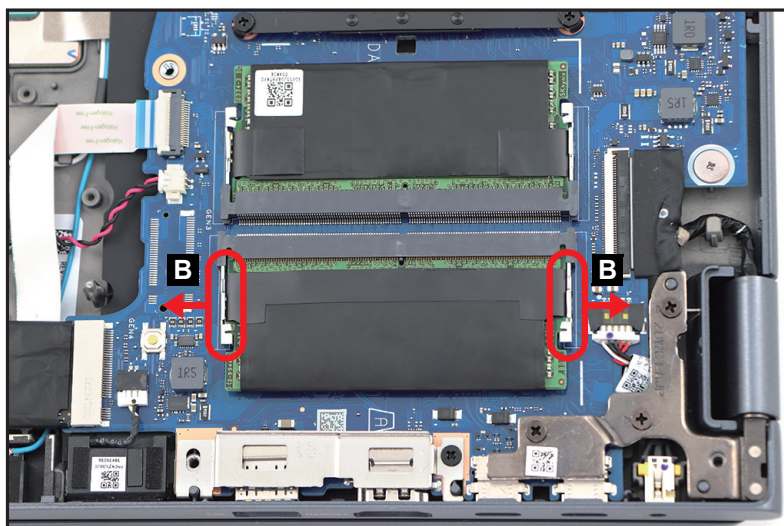

Figure 1-27. DIMM Module Removal
2. Push the DIMM module clips (B) outwards (Figure 1-27).